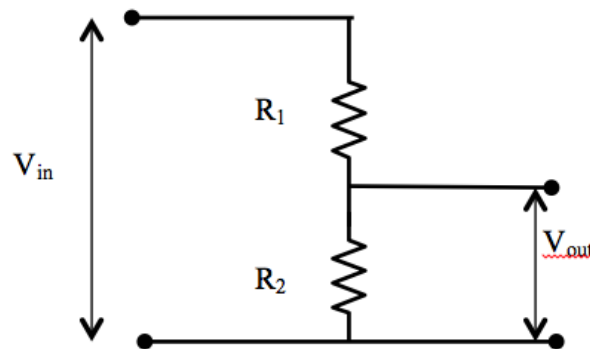

Fig.L1.1 Voltage Divider
1. Find the voltage  $V_{out}$  in Fig. L1.1, where  $R_1 = 4.7\text{ K}\Omega$ ,  $R_2 = 6.8\text{ K}\Omega$ . If a load with resistance of  $5.6\text{ K}\Omega$  is attached to the output terminal, what is the voltage of  $V_{out}$ ?
In this part, you will construct a voltage divider based on Fig. L1.1 and measure the output voltage  $V_{out}$ . Please follow the steps below.
3. Connect the resistors and voltage source as shown in Fig.L1.1 using breadboard.